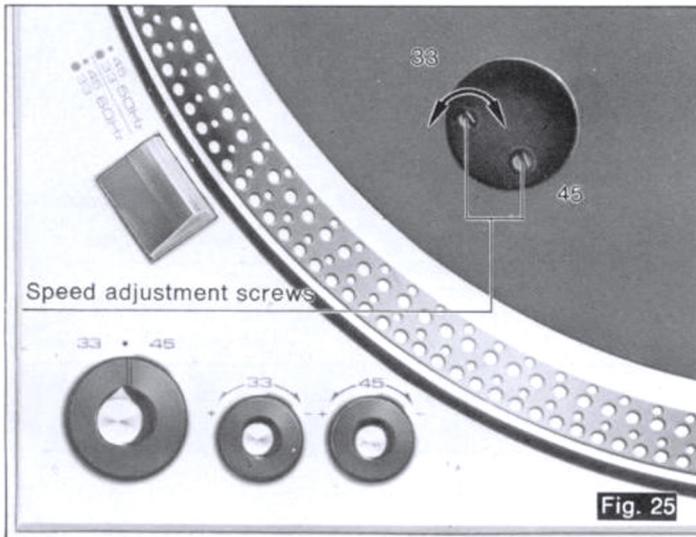

Fig. 25
5. If the desired speed can not be obtained by the variable pitch controls, turn the speed adjusting screws with a screw driver for further adjustments. (See Fig. 25.)